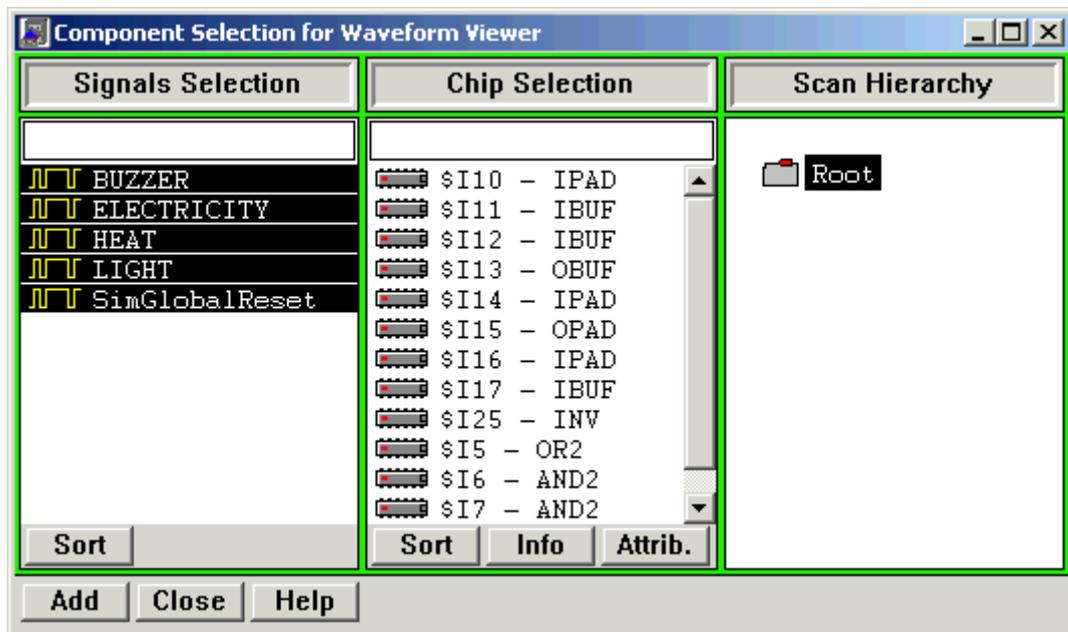

Figure 16: Component Selector.
2.3.5.1. **Adding Signals** To simulate the circuit and probe if it is working correctly, you need to add the signals you need to view. The signals added are displayed in the signals pane and their simulation waveforms in the waveform pane. We proceed inputting the signals by clicking on the component selector button in the toolbox. The component selector window appears as shown in Figure 16. Select the signals to view and while selected right click to add the signals in the signals pane.